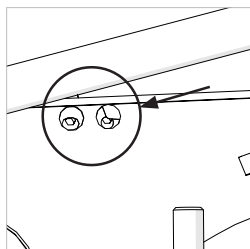

Fig. 27
To adjust the Riving Knife loosen the two (2) fixing screws **(Fig. 27)** slightly using an allen key. When correct alignment is achieved tighten the fixing screws.